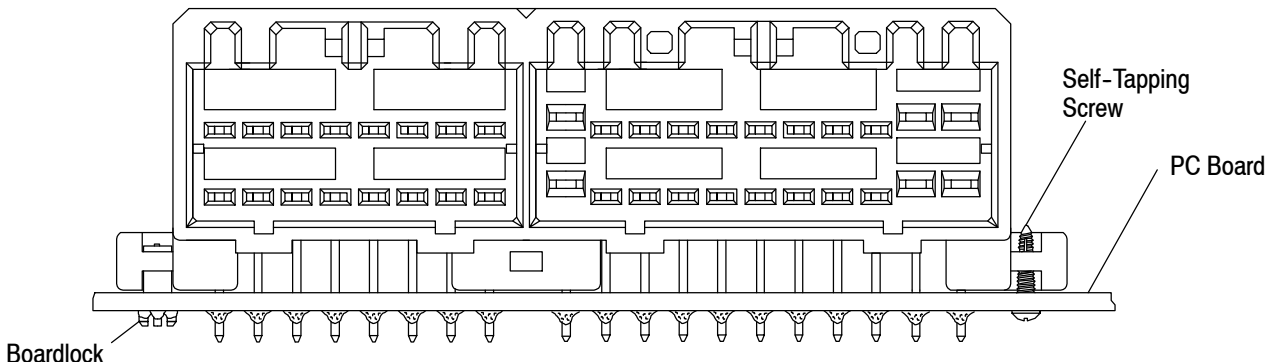

Figure 9
**3.10. Methods of Attaching Female Cap Assembly to PC Board** (See Figure 9)